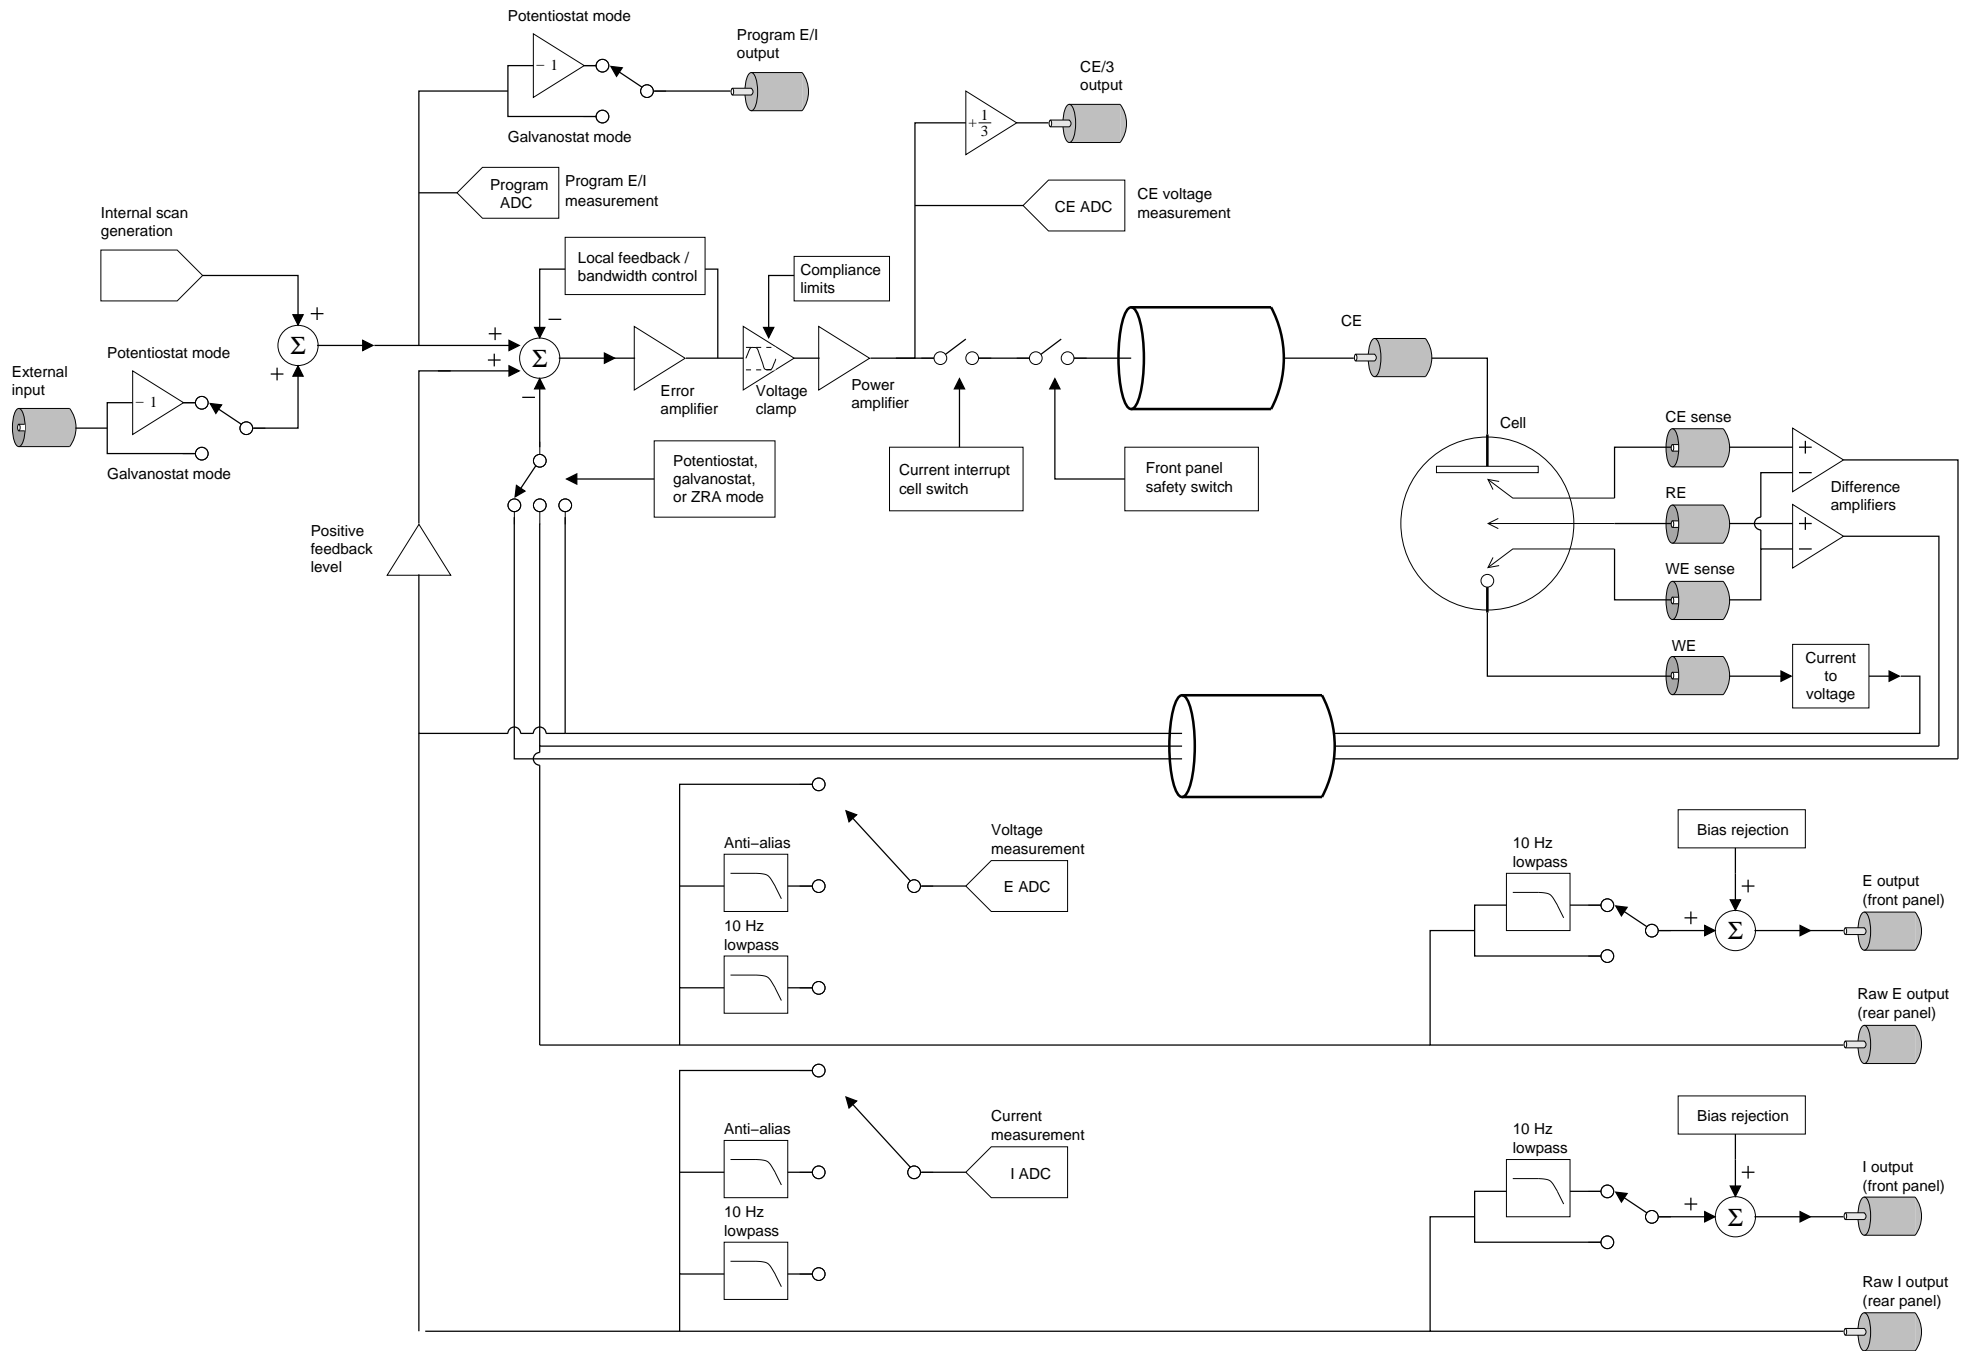

Figure 1: EC301 block diagram.
Figure 1 illustrates the major signal paths in the EC301.
**RE (reference electrode) input:** As illustrated in figure 1, this electrometer input is used with WE SENSE to monitor cell potentials.
**WE SENSE input:** As illustrated in figure 1, this electrometer input is used with both the RE and CE SENSE electrodes to monitor cell potentials.